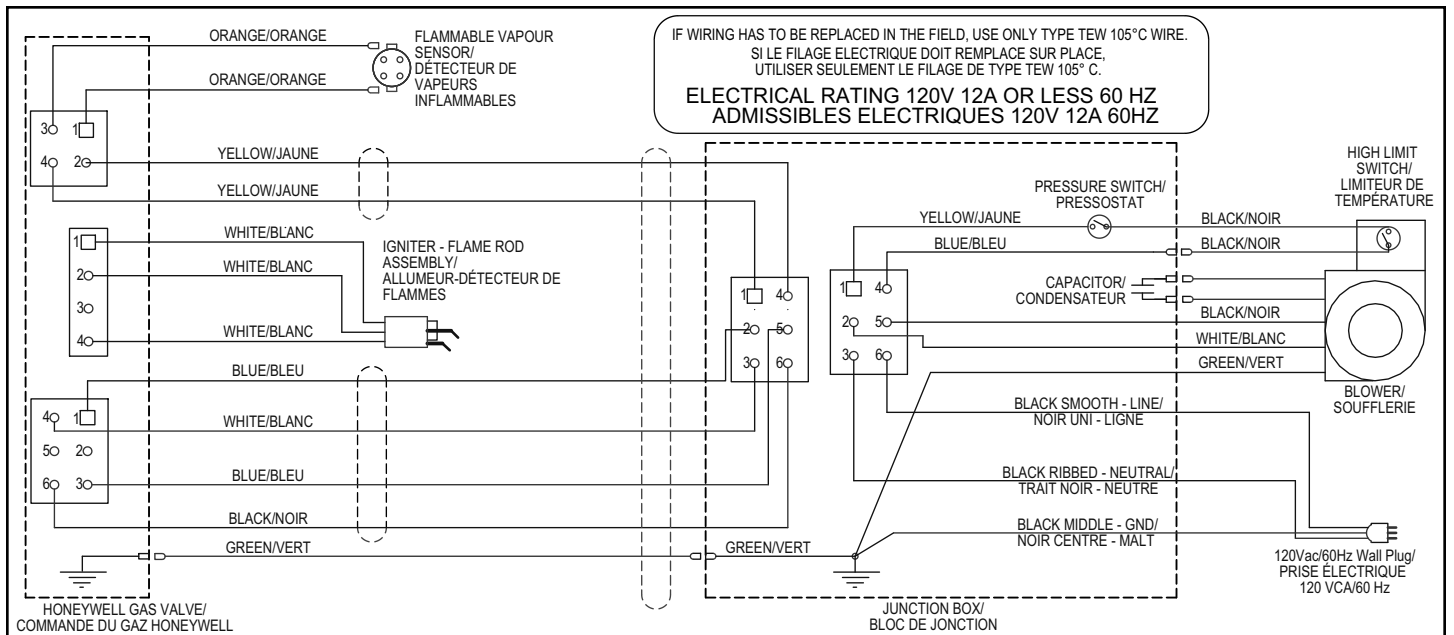

Figure 32
**Important:** The electrical controls used inside the gas control/thermostat of this water heater are polarity sensitive. Ensure the electrical supply is connected correctly in the receptacle box. Failure to connect correctly will prevent the unit from functioning properly (see Figure 32). Before performing any electrical service work, label all wires to avoid connection errors. If wiring has to be replaced, use only **TYPE TEW 105°C** wire, (except igniter wires). If there is a problem with igniter wires, replace igniter assembly in its entirety. In locations where a sump pump failure, flooding or exposure to water may be present, a ground fault receptacle is recommended.